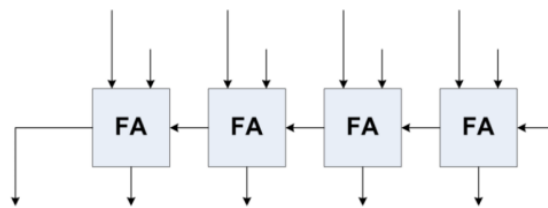

Figure 3: Ripple Carry Adder
3. Design your RCA module so that it contains 4 FA circuits as shown in Figure 3.
2. Design your RCA module similarly to the previous step. But this time, use **generate-for** struct and **SIZE** parameter to come up with a rule to connect multiple FAs, using Figure 3. How many FAs used should be solely determined by **SIZE** parameter. "**generate-for**" struct must make the proper connections automatically.